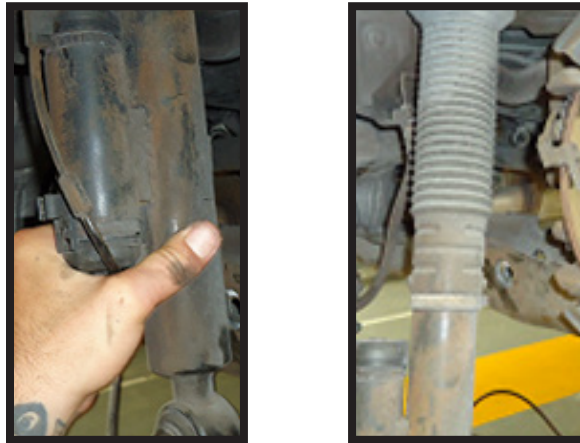

FIGURE 26
13. REMOVE STRUT ASSEMBLY FROM THE VEHICLE. (FIGURE 26)